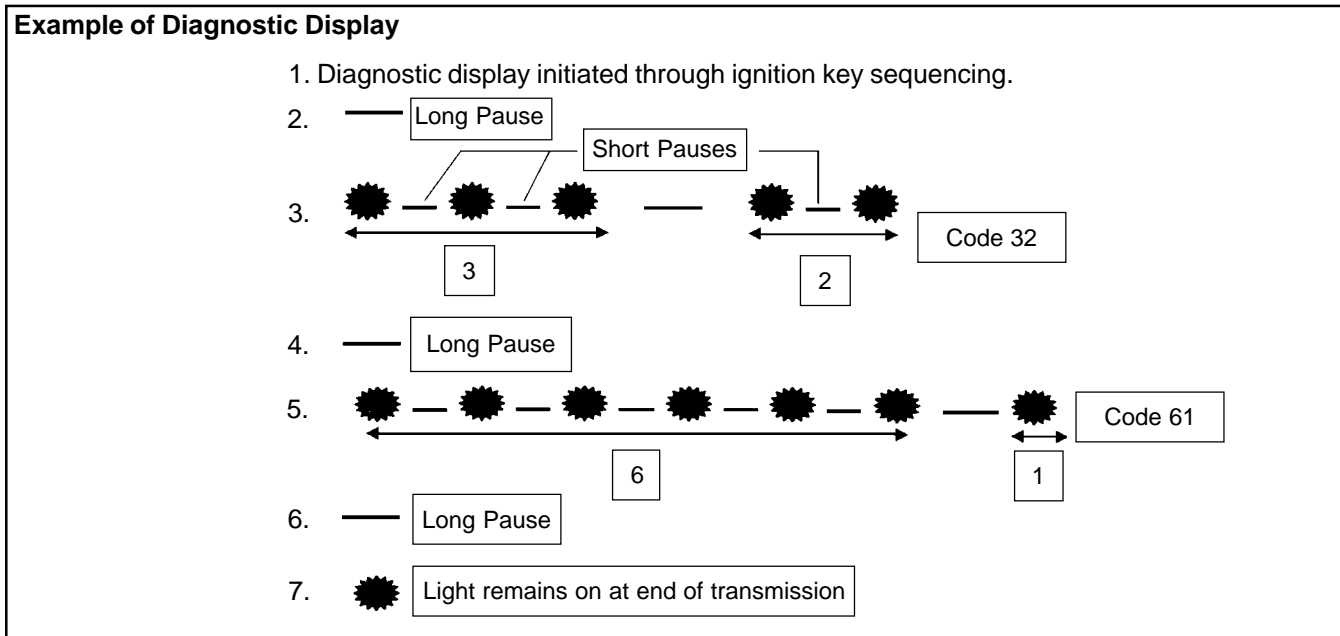

Figure 5B-43.
3. Any stored fault codes will then be displayed as a series of MIL blinks (from 2 to 6) representing the first digit, followed by a pause, and another series of blinks (from 1 to 6) for the second digit (see Figure 5B-43).